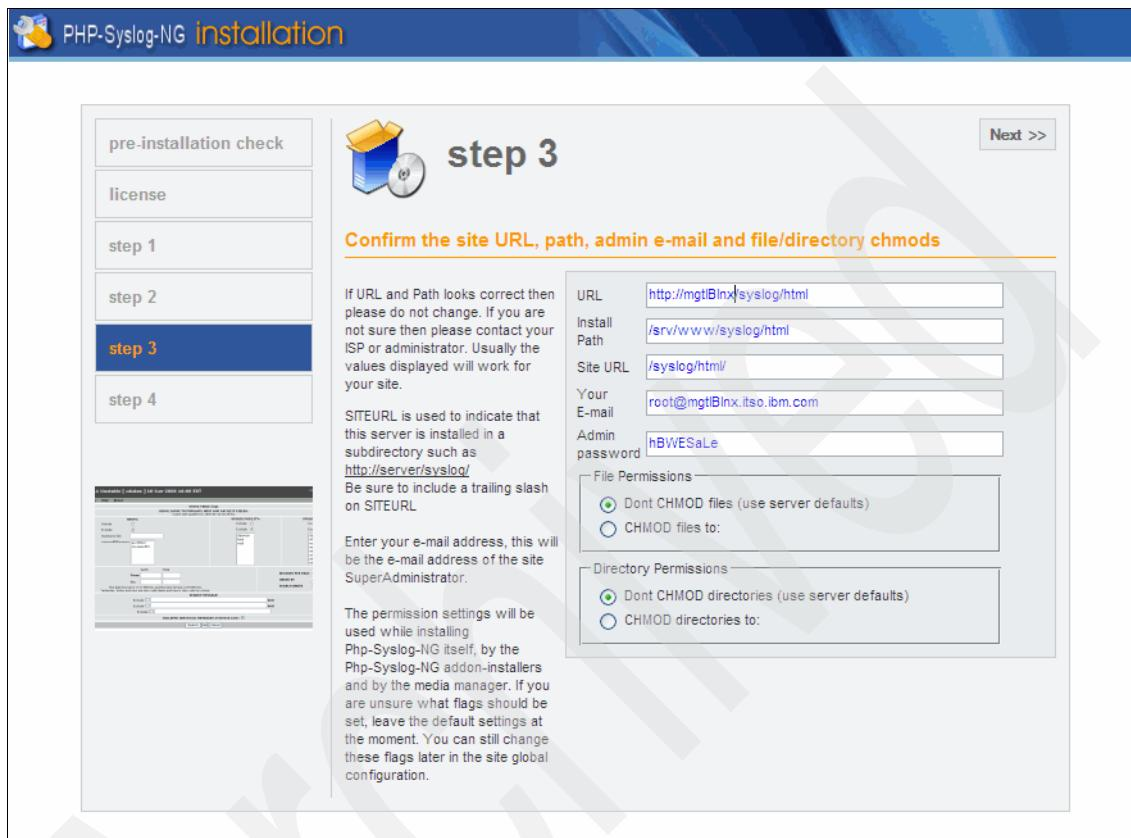

Figure 10-4 Set up the URL path
- Set up the URL path for php-syslog-ng application, as shown in Figure 10-4, and click **Next**. Pay attention to the backlashes (/) at the end of the *Site URL* path. Chose a convenient password.